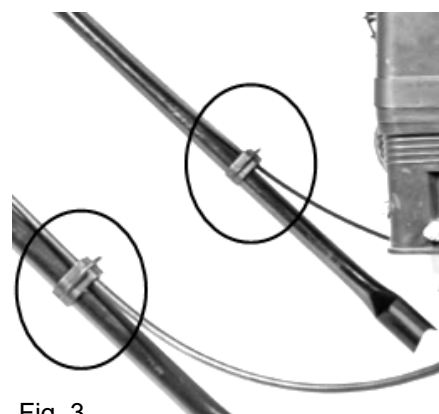

Fig. 3
3. Use the clip to secure the control cable, see Fig. 3.